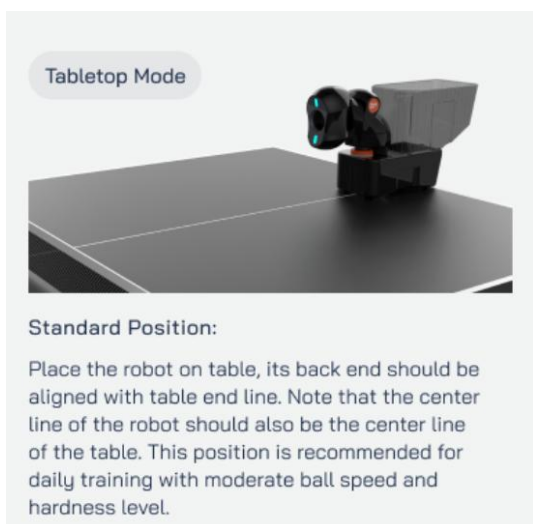

Figure 2-4
2.1.4. Place the robot at a suitable position. The default positions are standard position and near-net position (Figure 2-4, 2-5). If you use the custom combination function, the robot can be placed at any position on the table.